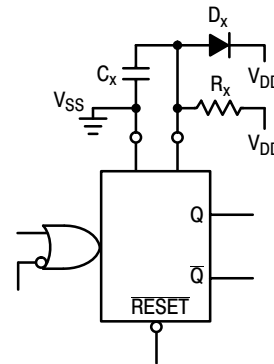

Figure 11. Use of a Diode to Limit Power Down Current Surge
7. If $C_X > 15 \mu\text{F}$, use discharge protection diode per Fig. 11.
When a more rapid decrease of V_{DD} to zero volts occurs, the XD14538 can sustain damage. To avoid this possibility use an external clamping diode, D_X , connected as shown in Fig. 11.